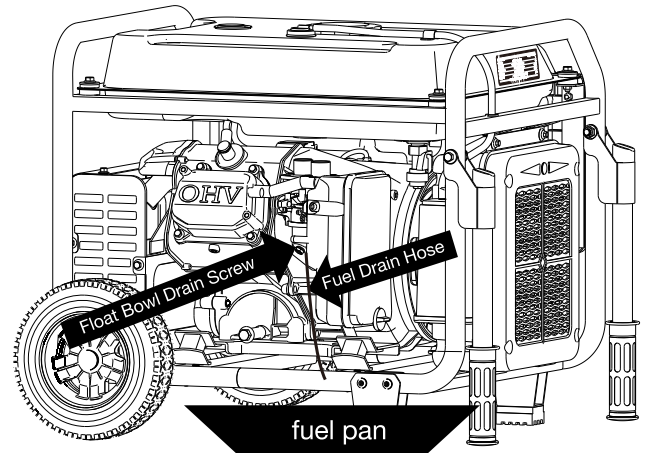

Figure 12: Fuel drain hose
2. Connect the transparent plastic hose and place a suitable container under it to capture the spent fuel (see Figure 12).